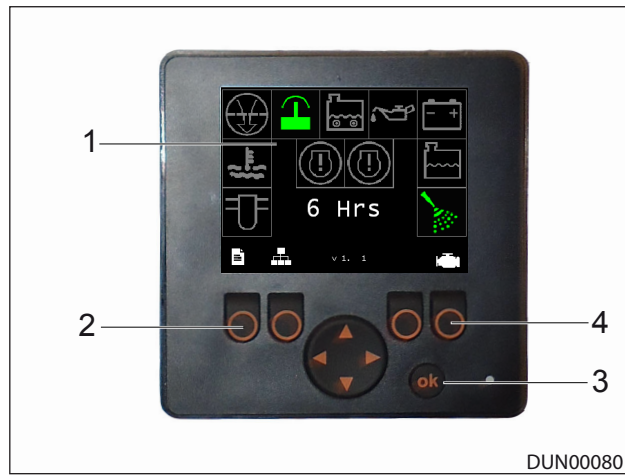

Figure 7.7 - Control Panel Display
4. To view engine information, press the button under the engine symbol (Item 4), Reference: Figure 7.7.
To return to the main menu home screen any time press the button under the exit symbol (Item 2), Reference: Figure 7.7.